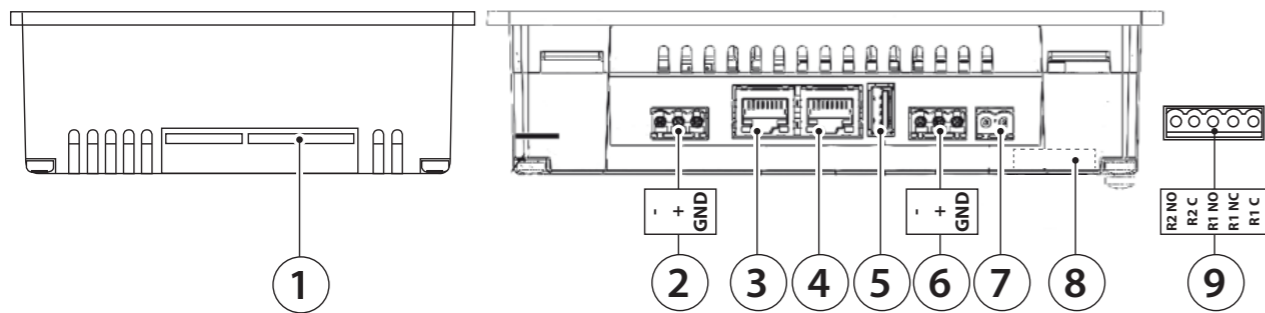

Fig.3
- connect the loads to the relay outputs following the instructions in Fig. 3 bullet 9